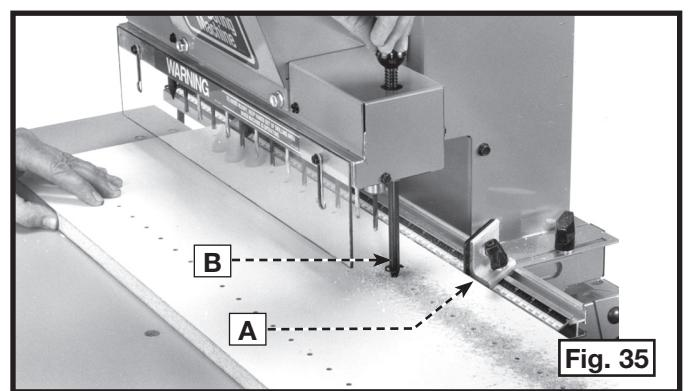

Fig. 35
2. If more than 13 holes are required, slide the work-piece along the fence and push down on the indexing pin (B) Fig. 35 until the pointed end of the pin is in the last hole previously bored. This aligns the workpiece for the next series of holes. Note that the fence stop (A) has been pushed back allowing the workpiece to fit flush against the fence.